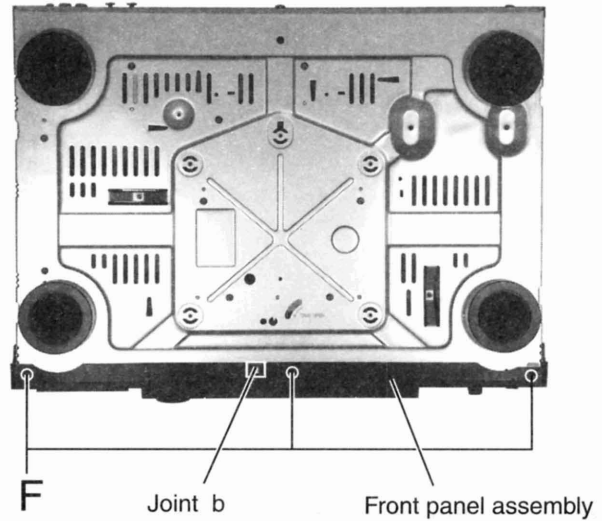

Fig. 6
■ Removing the magnetic head (see Fig.6 and 7)